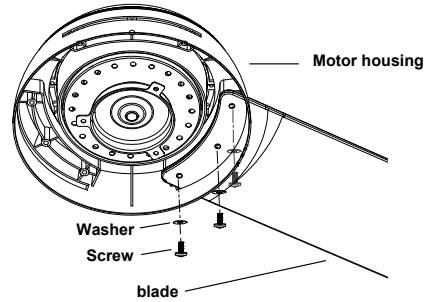

Fig.6
- Step 2 Insert the blade into the fan and align the blade screw hole with the screw hole of the center band. (Fig.6)